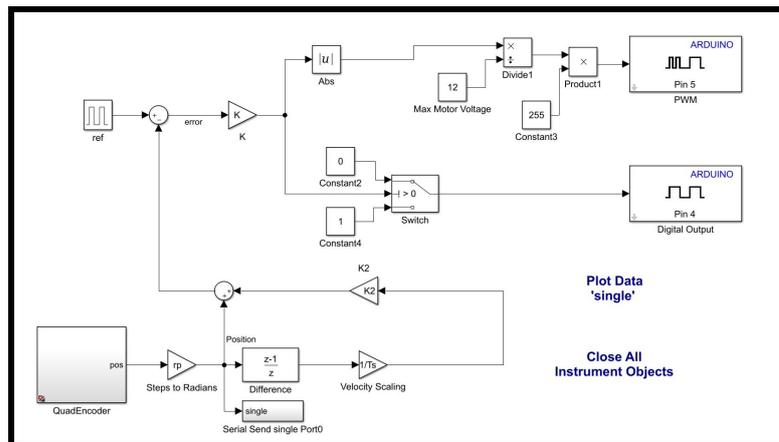

Figure 3.8: Final Closed Loop Step Response Simulink Model for Arduino
31. Click **File** → **Save As...** → **RL_Step_Resp_Arduino.xls**. The Arduino Simulink file for the experimental closed loop step response (proportional feedback) is now complete. See Figure 3.8 for the completed model.